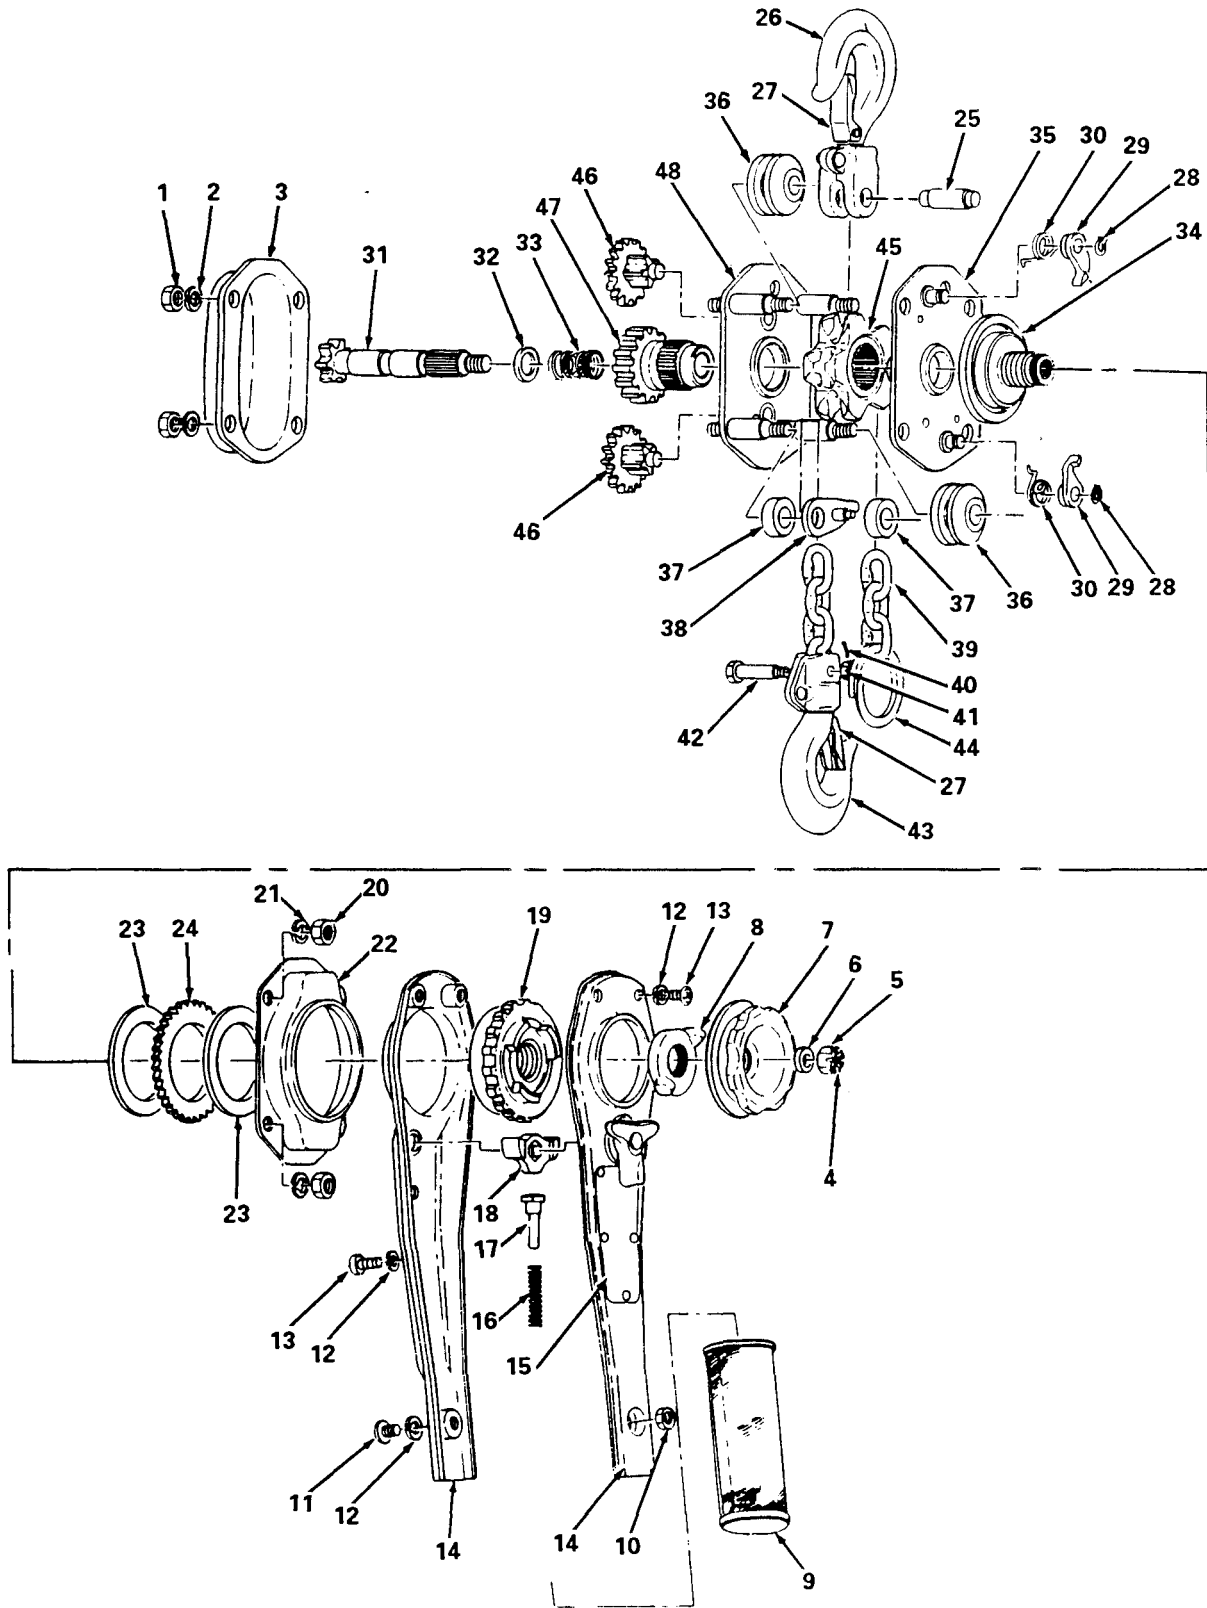

Figure 6-3. Chain Hoist, Assembly.
(2) *Assembly.* (figure 6-3)
- (a) Install load gear (47), two No. 2 gears (46) and load sheave (45) in slide plate B assembly (48).
- (b) Attach chain stopper link (44), if removed.
- (c) Position bottom hook assembly (43) and safety assembly (27) and secure with chain pin (42), slotted nut (41) and split pin (40).
- (d) install load chain (39), stripper (38), two stripper collars (37) and guide rollers (36).
- (e) Position slide plate A assembly (35).
- (f) Install friction disc (34), coil spring (33), spring seat (32) and pinion (31).
- (g) Install two pawl springs (30), pawls (29) and secure with snap rings (28).
- (h) Position top hook assembly (26) and safety lever assembly (27) and secure with top pin (35).
- (i) Install one friction plate (23), ratchet disc (24) and remaining friction plate (23).
- (j) Position brake cover (22) to slide plate A assembly and secure with four washers (21) and nuts (20).